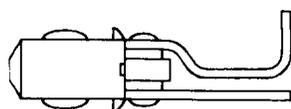

Fig. 19—986A Connector
2.15 986A: The 986A connector (Fig. 19) consists of two 946C connectors and two molded insulators mounted to a common bracket. The terminal leads are soldered to both sides of the printed wiring board and 164 terminals are provided. The connector is restricted for use in RSS applications and is intended for use only with the 987A connector.